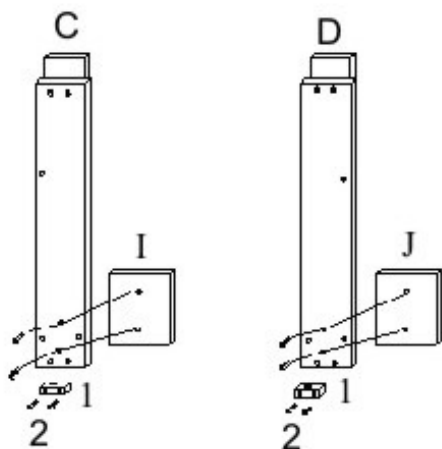
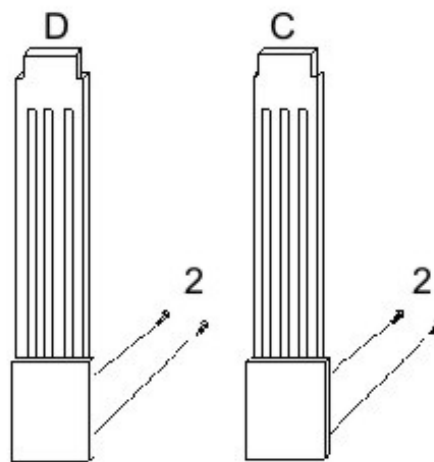

Fig. 3
Fig. 4
**Step 3:** Attach RIGHT & LEFT FRONT LOWER PANELS (G, H) to the LEFT & RIGHT FRONT PANELS (E, F) with 4 KD SCREWS (2). See Fig.3 and Fig.4.
**Step 4:** Attach 2 PLASTIC CONNECTORS (1) at the bottoms of the LEFT & RIGHT FRONT PANELS (C, D) with 4 KD SCREWS (2). See Fig.3 and Fig.4